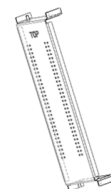

Figure2
- STEP 5:** Check all apparatus is present and correct (Figure2)